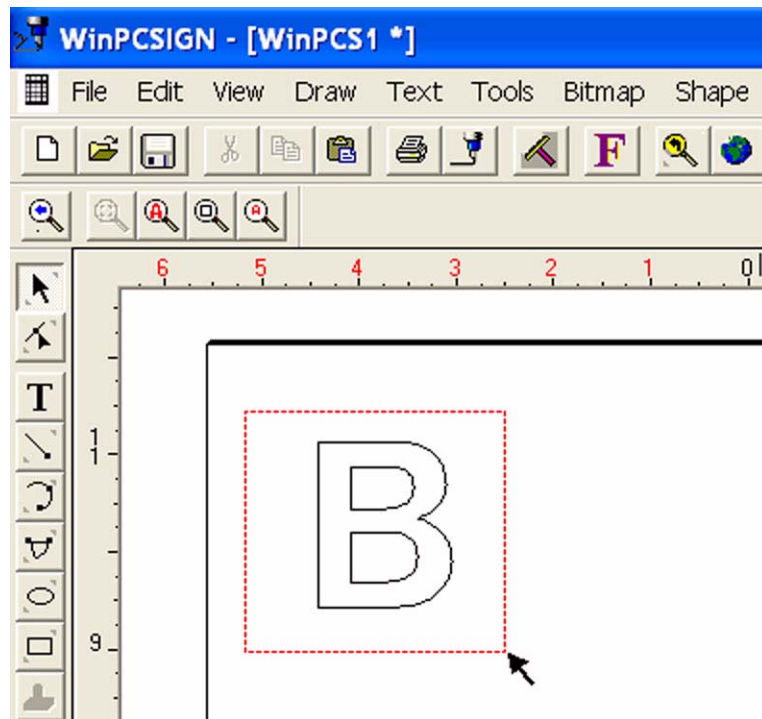

Figure 137
With the **Select Elements** tool selected, click the item(s) you want to resize, move, or change. See figure 137.
- To work with a group of elements, drag a box around a group. See figure 137.